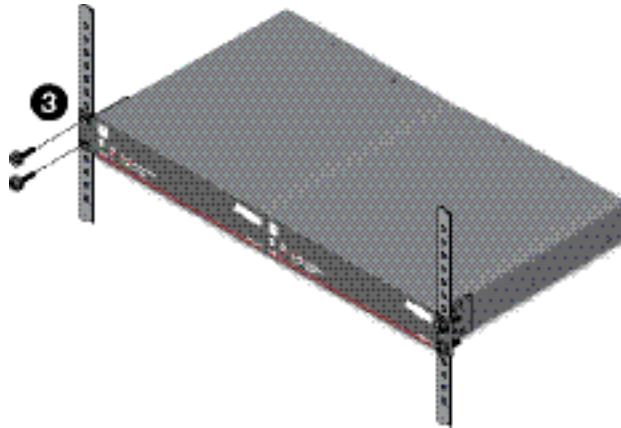

Figure 3. Secure Connected XPA U 3502 Amplifiers to Rack
6. Secure the amplifiers to the rack using four provided 10-32 3/4" screws (see figure 3, ③)